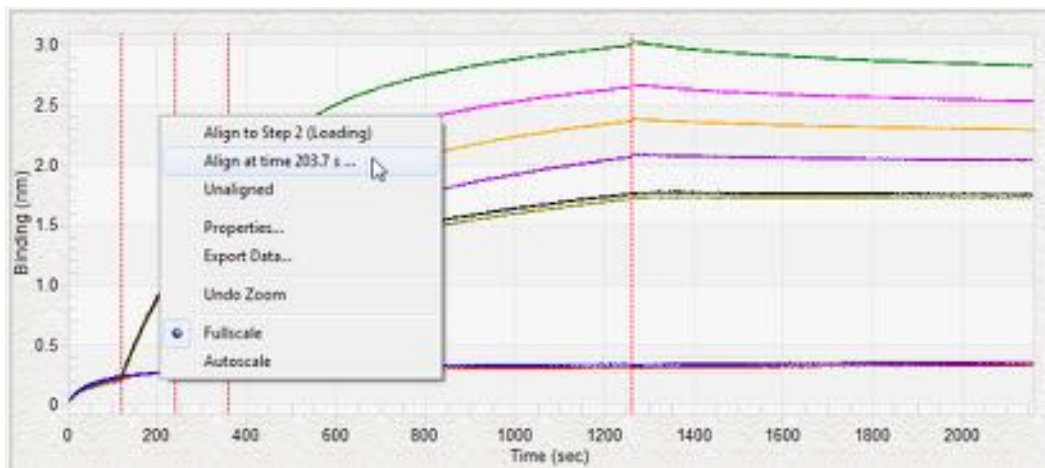

Figure 10-96: Runtime Binding Chart—Aligning the Data to a User-Specified Time
1. To align the binding data to a specific time, in the **Runtime Binding Chart** (see Figure 10-96), right-click and select **Align at time**.